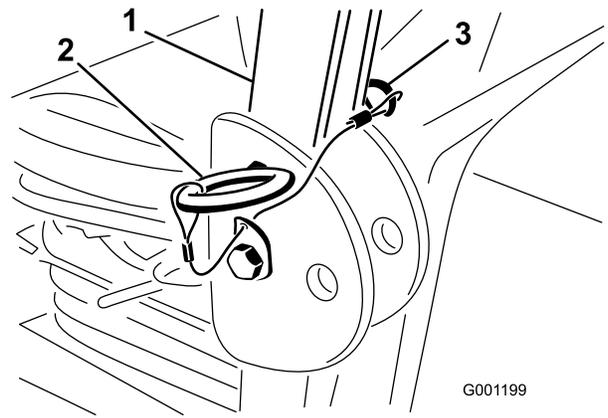

Figure 8
1. Remove the hairpin cotter pins and remove the two pins from the roll bar (Figure 8).